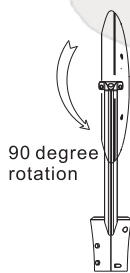

Figure 1
1. Rotate the lamp body 90 degree to make sure light facing downward. (Figure 1)